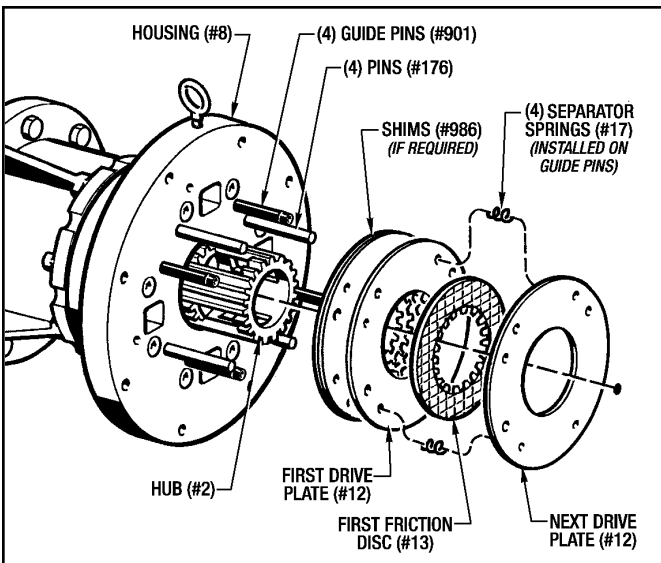

Figure 3.7 - Installing MSB12 Brake Stack
If your *MagnaShear* Motor Brake is shipped pre-assembled to a drive motor, it is filled with oil and ready to run except for installing the Air Breather (#45) and electrical wiring. (See Figures 3.7, 3.8 and 3.9 for Electrical Wiring Diagram and information.)
11. Remove the (4) Guide Pins (#901) from the stored position (See Figure 8.2) and install them into the Housing (#8) as shown in Figure 3.7.
13. Take the First Drive Plate (#12) from the Brake Stack and place it over the (4) Pins (#176) and the (4) **Guide Pins (#901)**.
15. Place a Separator Spring (#17) on each of the (4) **Guide Pins (#901)**.
17. Remove the Guide Pins (#901) one at a time while keeping pressure on the stack with your hand. This will keep the Separator Springs (#17) in place. Replace each of the (4) Guide Pins (#901) with Shoulder Bolts (#138). Use **Blue Loctite #242** on the bolts and torque to **25 Lb. Ft.** Replace the (4) Guide Pins (#901) back into the (4) storage position holes.
19. Slide the End Housing (#9) into place and attach with (8) Lockwashers (#127) and (8) Screws (#149).